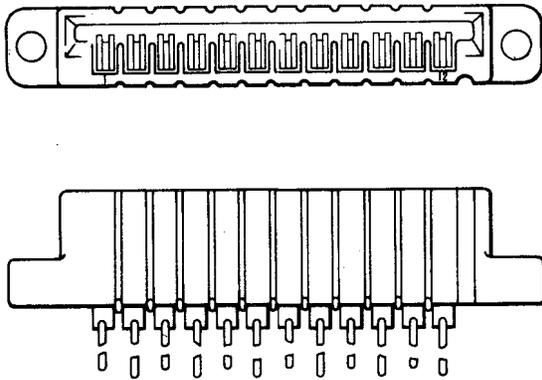

Fig. 3—909A Connector
2.02 909A: The 909A connector (Fig. 3) consists of a molded block of insulating material containing spring terminals, equipped with twin contacts for connection to a printed wiring board. The wiring end of each terminal is arranged for mechanically wrapped connection, unless otherwise stated. This connector is arranged for rigid mounting by means of No. 6 screws with closest recommended side-by-side mounting centers of 0.531 inch, or for floating mounting by means of two P-12B953 screws with closest recommended mounting centers of 0.562 inch. This connector is used in the J99289 calling-receiving unit in common systems.